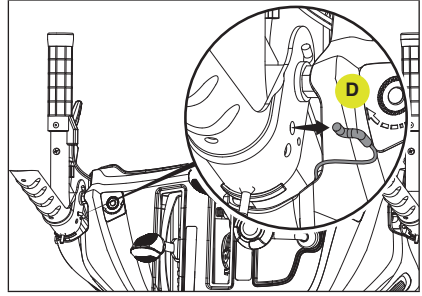

Figure 52
4. Unhook the connector (D) in the control handle. You may have to move the control handle to make this easier to remove. (Fig. 52)